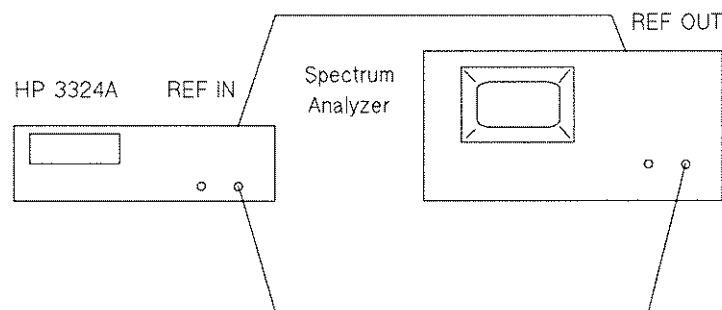

Figure 12-2. Mixer Spurious Test Set-Up
1. Connect the HP 3324A signal output to the spectrum analyzer  $50\Omega$  (RF) input and the HP 3324A EXT REF input to the analyzer 10 MHz reference output, as shown in Figure 12-2.